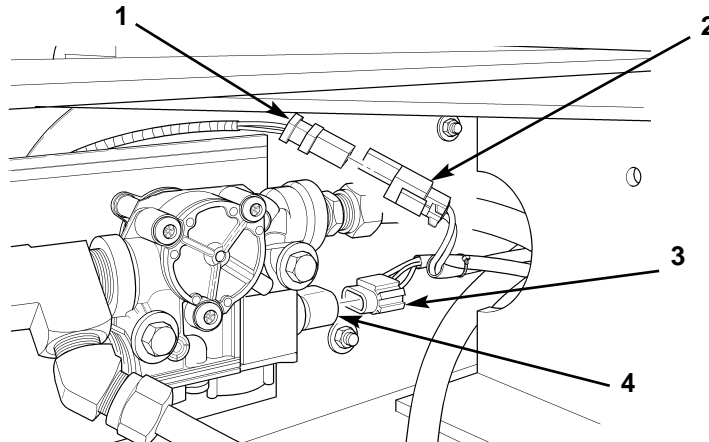

Figure 8. Connecting Rear Wheel Sensor and Modulator Harnesses.
6. Connect left rear wheel sensor cable plug (figure 8, item 1) to left rear wheel sensor harness connector (figure 8, item 2).
7. Connect left rear modulator harness plug (figure 8, item 3) to left rear modulator receptacle (figure 8, item 4).